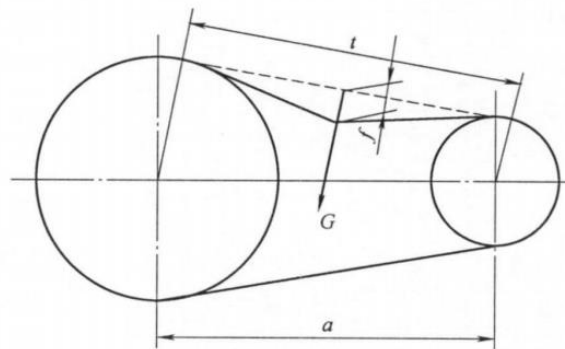

Figure 12-9 Installation deflection of synchronous belt
- Step7. Adjust the timing belt to the proper tension (as shown in Figure 12-9); The synchronous belt frequency is 96Hz - 100Hz, which can also be measured by pressure method, with pressure  $G=1.7\text{ N}$  and deformation  $f=3.2\text{ mm}$ .
- Step7. Adjust the timing belt to the proper tension (as shown in Figure 12-9); The synchronous belt frequency is 101Hz -106Hz, which can also be measured by pressure method, with pressure  $G=0.9\text{ N}$  and deformation  $f=2.2\text{ mm}$ .